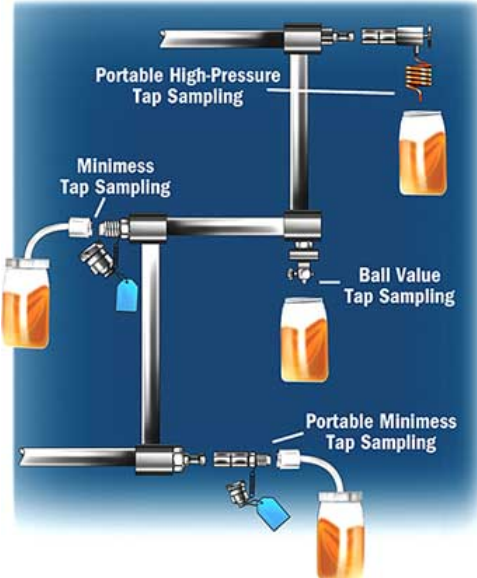

Figure 3. Pressurized line
When samples need to be taken from pressurized feed lines leading to bearings, gears, compressors, pistons, etc., the sampling method is simpler. Figure 3 shows four different configurations.
**Portable High-Pressure Tap Sampling.** The uppermost configuration on Figure 3 is a high-pressure zone where a ball valve or needle valve is installed and the outlet is fitted with a piece of stainless steel helical tubing. The purpose of the tubing is to reduce the pressure of the fluid to a safe level before it enters the sampling bottle. A similar effect can be achieved using a small, hand-held pressure reduction valve.